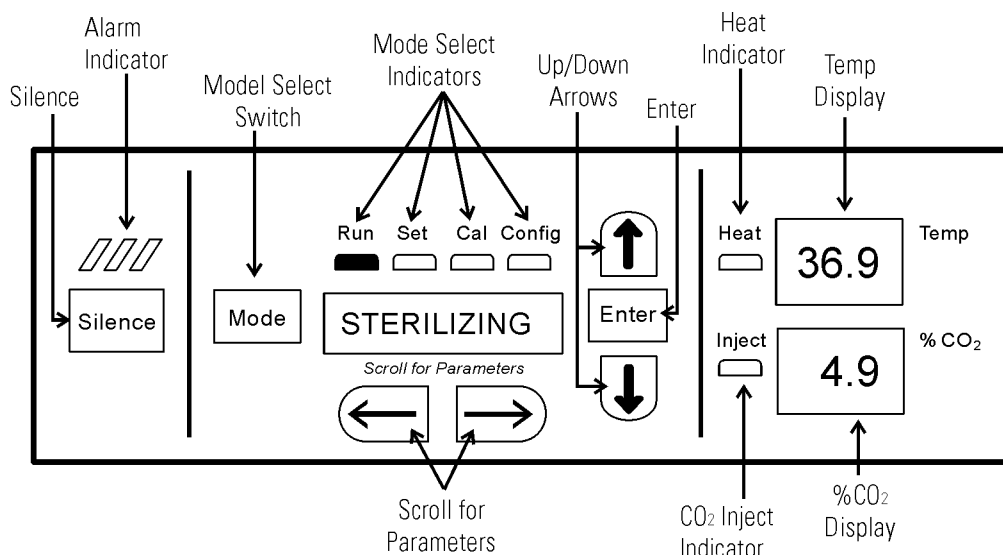

Figure 1-2. Control Panel
- Control Panel - Keypad, displays & indicators (Figure 1-2).